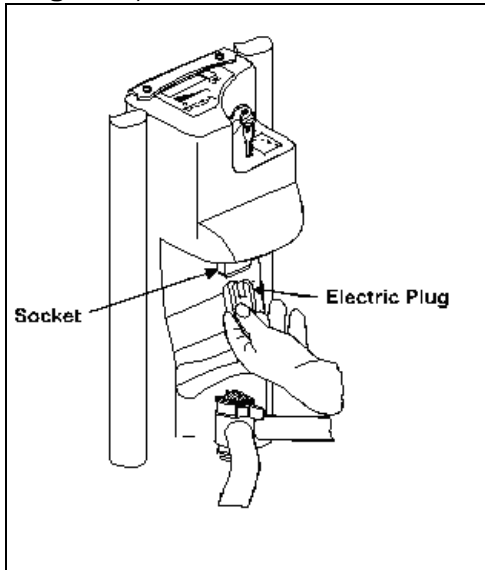

figure 6
- d. Connect the Electric Plug to the Socket in the Tiller (See Figure 6).